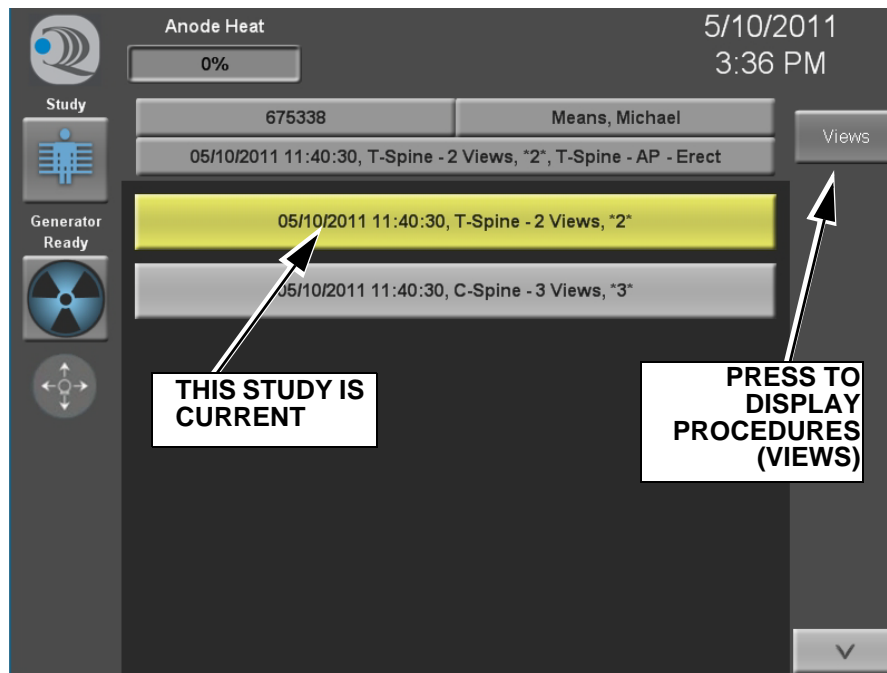

Figure 3-12. TechVision Study Management Mode Screen - Studies List Display
6. **Studies** button - Select to view a list of the available studies for the current patient (defined by unique accession number as assigned by the Carestream DRX-1 Imaging System). Pressing the **Views** button (see Figure 3-12 below) returns to the Study Management Mode Screen -Views display):